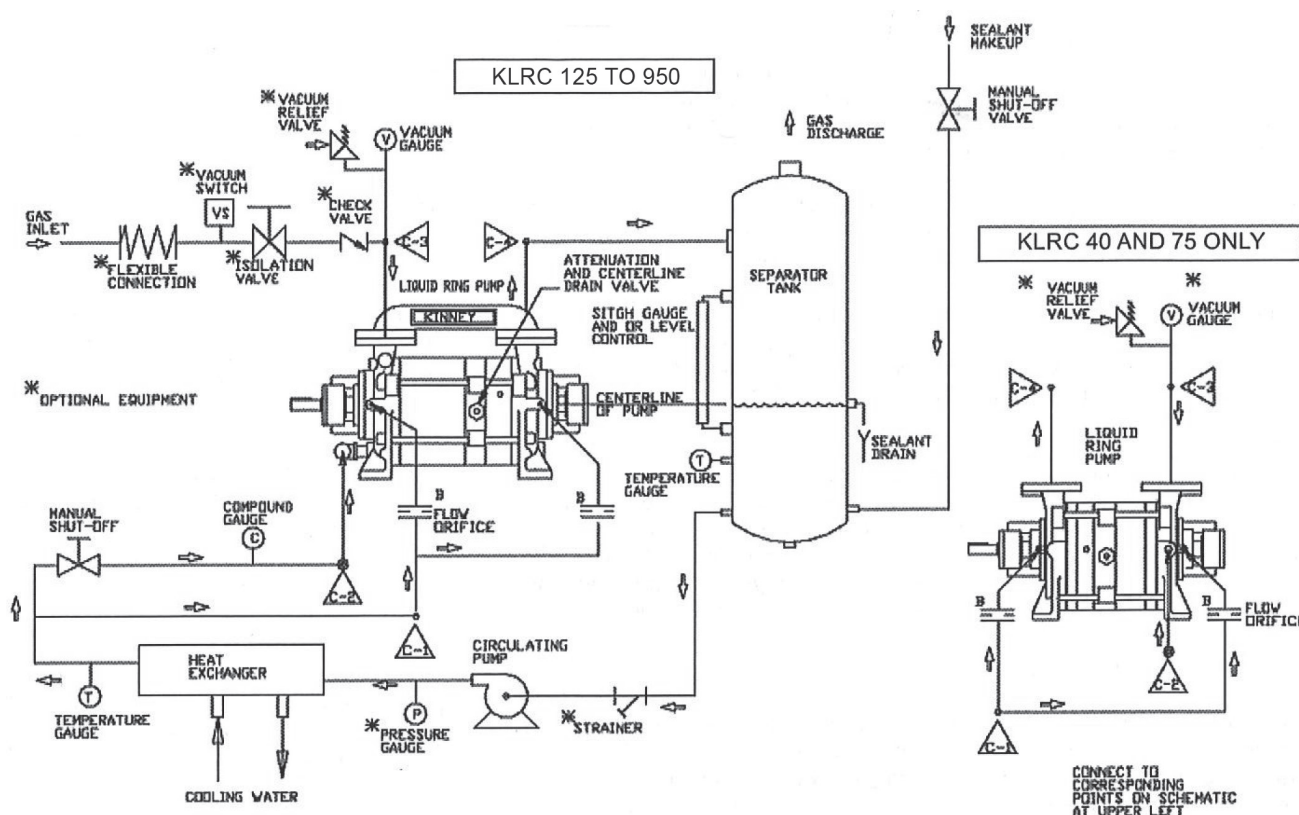

Figure 3-3 – Piping Schematic: Full Sealant Recovery System with Circulating Pump
- Full Recovery with Circulating Pump (**Figure 3-3**)
A full sealant recovery system is a closed-loop sealing configuration that employs a heat exchanger (water- or air-cooled) to maintain proper sealing fluid temperature. **See Figure 3-3** for piping arrangement. This arrangement is not suitable for prolonged operation at pressure above 400 Torr (533.28 mbar) unless a circulating pump is installed.